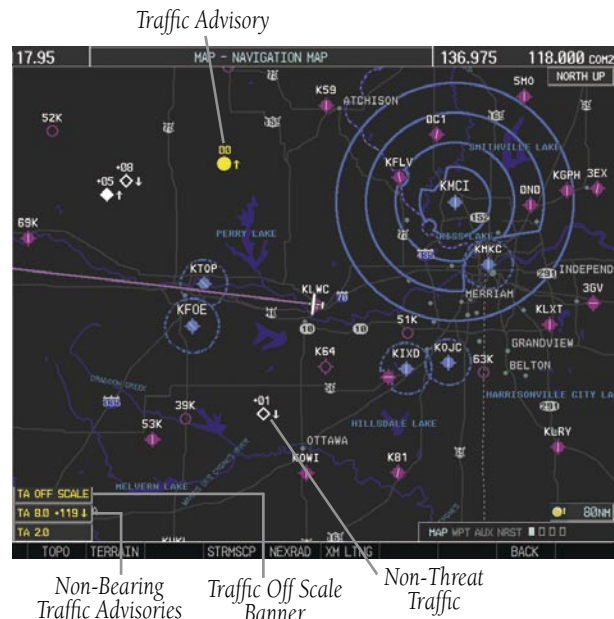

Figure 10-14 TAS Traffic on Navigation Map
- 2) Press the **TRAFFIC** Softkey. Traffic will now be displayed on the map (see Figure 10-14).